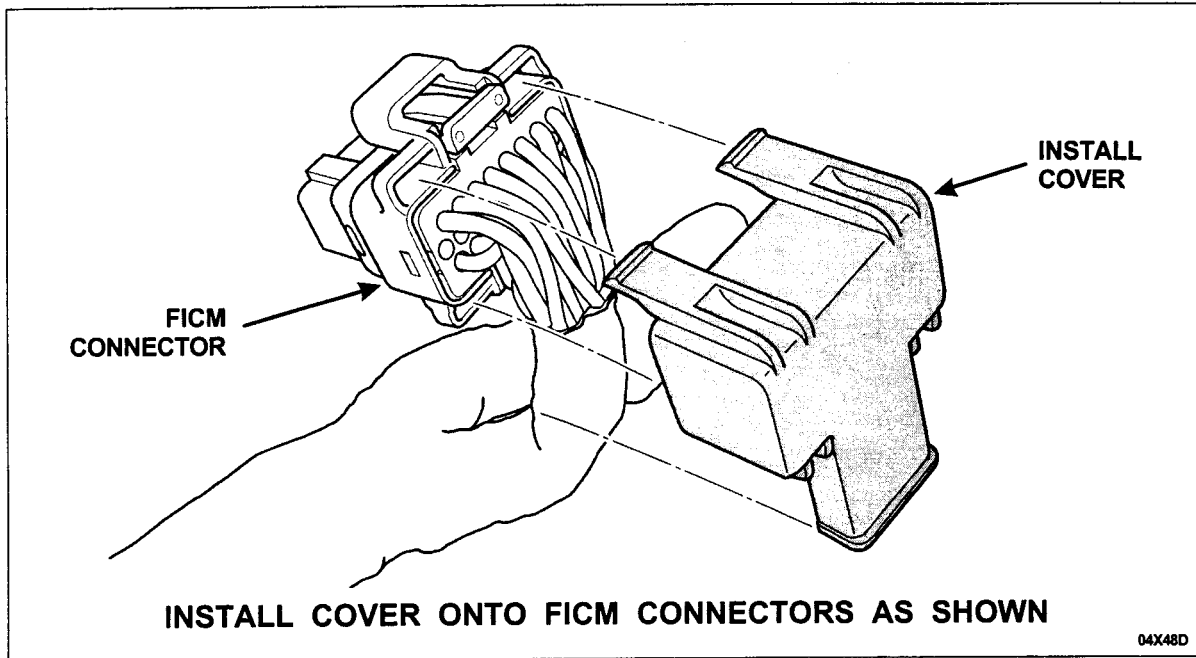

FIGURE 5
1. Install the harness connector covers onto **both** FICM injector harness connectors by carefully bending the wires coming out of the connector and snapping the cover in place. See Figure 5.